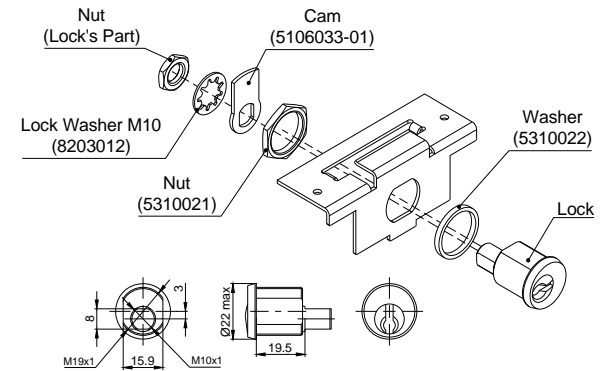

Fig. 6
- Step #4. Install the lock into the lock bracket (Fig. 6)